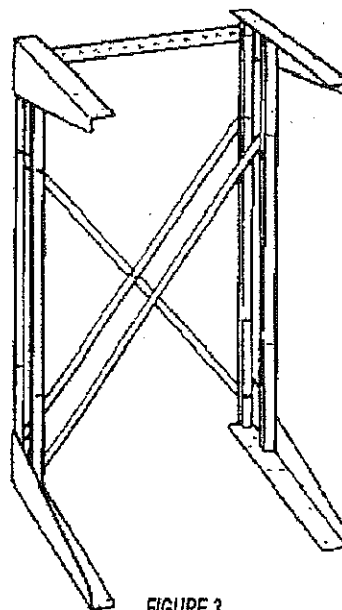

FIGURE 3
3. Attach cross brace assembly (4) to the back of stand using four screws (6) and four lock nuts (7). The cross brace assembly must be installed using the second and fourth set of holes (from the top) in each half of the stand base (2). Be sure screws are inserted from the back of the stand. Tighten nuts hand tight. Assembled stand should look like Figure 3.